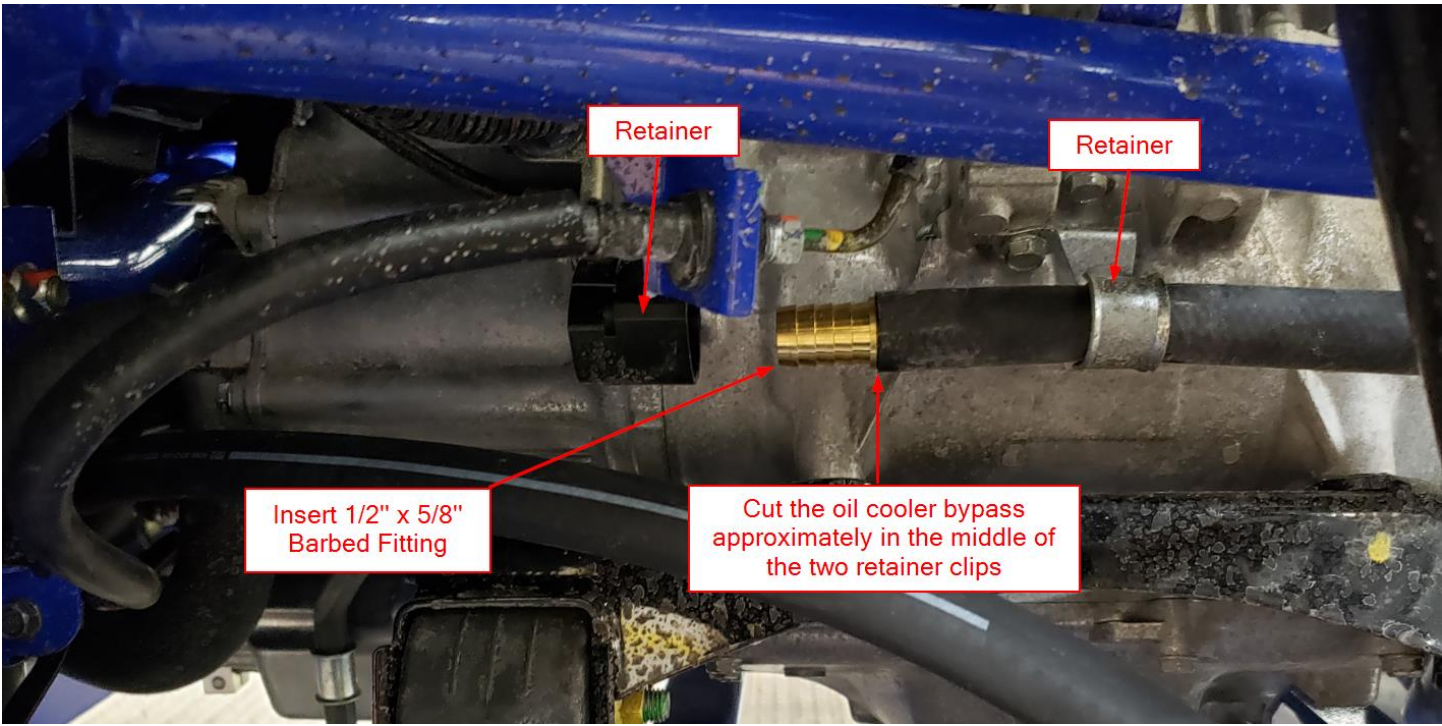

Figure 25
- c. Cut the Oil Cooler Bypass line between the two retainer clips as shown in Figure 25. Note, some coolant may drain out.